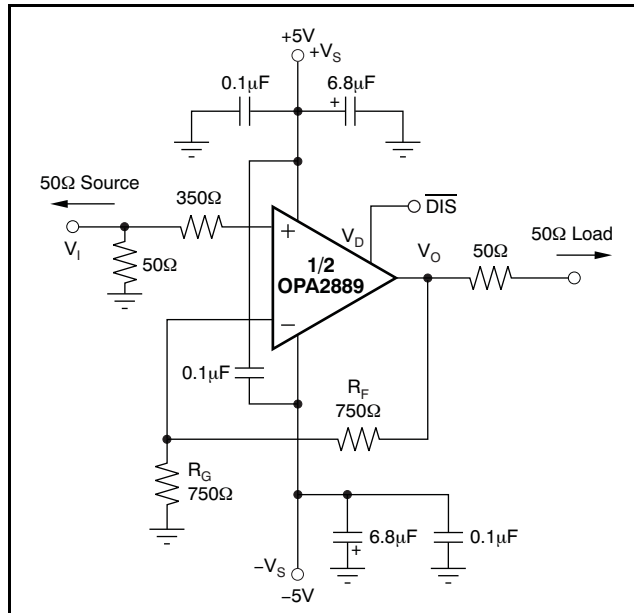
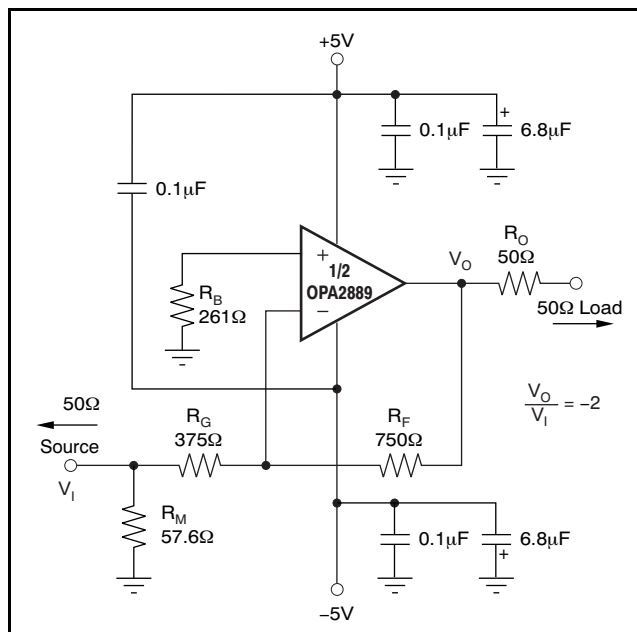

Figure 50. DC-Coupled, G = +2, Bipolar Supply, Specification and Test Circuit
Figure 60. Gain of $-2V/V$ Example Circuit
At $T_A = +25^\circ C$, $G = +2V/V$, $R_F = 750\Omega$, and $R_L = 100\Omega$, unless otherwise noted. See Figure 50.
Figure 50 shows the dc-coupled, gain of +2V/V, dual power-supply circuit configuration used as the basis of the ±5V Electrical Characteristics and ±5V Typical Characteristics. This illustration is for one channel; the other channel is connected similarly. For test purposes, the input impedance is set to 50Ω with a resistor to ground and the output impedance is set to 100Ω. Voltage swings reported in the Electrical Characteristics are taken directly at the input and output pins, while output powers (dBm) are at the matched 50Ω load. For the circuit of Figure 50, the total effective load will be 100Ω || 1.5kΩ. The disable control line (MSOP-10 package only) is typically left open for normal amplifier operation. Two optional components are included in Figure 50. An additional resistor (350Ω) is included in series with the noninverting input. Combined with the 25Ω dc source resistance looking back towards the signal generator, this resistor gives an input bias current cancelling resistance that matches the 375Ω source resistance seen at the inverting input (see the DC Accuracy and Offset Control section). In addition to the usual power-supply decoupling capacitors to ground, a 0.1μF capacitor is included between the two power-supply pins. In practical printed circuit board (PCB) layouts, this optional-added capacitor typically improves the 2nd-harmonic distortion performance by 3dB to 6dB.
A good rule of thumb is to target the parallel combination of R_F and R_G (see Figure 50) to be less than approximately 400Ω. The combined impedance $R_F \parallel R_G$ interacts with the inverting input capacitance, placing an additional pole in the feedback network and thus, a zero in the forward response. Assuming a 2pF total parasitic on the inverting node, holding $R_F \parallel R_G < 400\Omega$ keeps this pole above 160MHz. By itself, this constraint implies that the feedback resistor R_F can increase to several kΩ at high gains. This increase in resistor size is acceptable as long as the pole formed by R_F and any parasitic capacitance appearing in parallel is kept out of the frequency range of interest.
Voltage-feedback op amps exhibit decreasing closed-loop bandwidth as the signal gain increases. In theory, this relationship is described by the Gain Bandwidth Product (GBP) shown in the Electrical Characteristics. Ideally, dividing GBP by the noninverting signal gain (also called the Noise Gain, or NG) predicts the closed-loop bandwidth. In practice, this principle only holds true when the phase margin approaches 90°, as it does in high gain configurations. At low gains (increased feedback factors), most amplifiers exhibit a more complex response with lower phase margin. The OPA2889 is compensated to give a slightly peaked response in a noninverting gain of 2V/V (see Figure 50). This compensation results in a typical gain of +2V/V bandwidth of 60MHz, far exceeding that predicted by dividing the 75MHz GBP by 2. Increasing the gain causes the phase margin to approach 90° and the bandwidth to more closely approach the predicted value of (GBP/NG). At a gain of +10, the 8MHz bandwidth shown in the Electrical Characteristics agrees closely with that predicted using the simple formula and the typical GBP of 75MHz.
The frequency response in a gain of +2V/V may be modified to achieve exceptional flatness simply by increasing the noise gain to 2.5V/V. One way to modify the response without affecting the +2V/V signal gain, is to add a 750Ω resistor across the two inputs, as shown in the circuit of Figure 50. A similar technique may be used to reduce peaking in unity-gain (voltage follower) applications. For example, by using a 750Ω feedback resistor along
The OPA2889 is a general-purpose, wideband, voltage-feedback op amp; therefore, all of the familiar op amp application circuits are available to the designer. Inverting operation is one of the more common requirements and offers several performance benefits. See Figure 60 for a typical inverting configuration where the I/O impedances and signal gain from Figure 50 are retained in an inverting circuit configuration.
In the inverting configuration, three key design considerations must be noted. The first is that the gain resistor (R_G) becomes part of the signal channel input impedance. If input impedance matching is desired (which is beneficial whenever the signal is coupled through a cable, twisted-pair, long PCB trace, or other transmission line conductor), R_G may be set equal to the required termination value and R_F adjusted to give the desired gain. This consideration is the simplest approach and results in optimum bandwidth and noise performance. However, at low inverting gains, the resultant feedback resistor value can present a significant load to the amplifier output. For an inverting gain of $-2V/V$, setting R_G to 50Ω for input matching eliminates the need for R_M but requires a 100Ω feedback resistor. This approach has the interesting advantage that the noise gain becomes equal to $2V/V$ for a 50Ω source impedance—the same as the noninverting circuits considered in Figure 60. The amplifier output, however, now sees the 100Ω feedback resistor in parallel with the external load. In general, the feedback resistor should be limited to the 200Ω to $1.5k\Omega$ range. In this case, it is preferable to increase both the R_F and R_G values (see Figure 60), and then achieve the input matching impedance with a third resistor (R_M) to ground. The total input impedance becomes the parallel combination of R_G and R_M .
The second major consideration, touched on in the previous paragraph, is that the signal source impedance becomes part of the noise gain equation and influences the bandwidth. For the example in Figure 60, the R_M value combined in parallel with the external 50Ω source impedance yields an effective driving impedance of $50\Omega \parallel 57.6\Omega = 26.7\Omega$. This impedance is added in series with R_G for calculating the noise gain (NG). The resulting NG is $2.86V/V$ for Figure 60, as opposed to only $2V/V$ if R_M could be eliminated as discussed above. Therefore, the bandwidth is slightly lower for the gain of $-2V/V$ circuit of Figure 60 than for the gain of $+2V/V$ circuit of Figure 50.
The third important consideration in inverting amplifier design is setting the bias current cancellation resistor on the noninverting input (R_B). If this resistor is set equal to the total dc resistance looking out of the inverting node, the output dc error, as a result of the input bias currents, is reduced to $(\text{Input Offset Current}) \times R_F$. If the 50Ω source impedance is dc-coupled in Figure 60, the total resistance to ground on the inverting input is 402Ω .
The OPA2889 provides good distortion performance into a 200Ω load on $\pm 5V$ supplies. Relative to alternative solutions, it provides exceptional performance into lighter loads and/or operating on a single +5V supply. Generally, until the fundamental signal reaches very high frequency or power levels, the 2nd-harmonic dominates the distortion with a negligible 3rd-harmonic component. Focusing then on the 2nd-harmonic, increasing the load impedance improves distortion directly. Remember that the total load includes the feedback network; in the noninverting configuration (see Figure 50), this total is the sum of $R_F + R_G$, while in the inverting configuration it is just R_F . Also, providing an additional supply-decoupling capacitor ($0.1\mu F$) between the supply pins (for bipolar operation) improves the 2nd-order distortion slightly (3dB to 6dB). Operating differentially also lowers 2nd-harmonic distortion terms (see the plot on the front page).
Evaluating these two equations for the OPA2889 circuit and component values (see Figure 50) gives a total output spot noise voltage of $18.2\text{nV}/\sqrt{\text{Hz}}$ and a total equivalent input spot noise voltage of $9.1\text{nV}/\sqrt{\text{Hz}}$. This total includes the noise added by the bias current cancellation resistor (350Ω) on the noninverting input. This total input-referred spot noise voltage is slightly higher than the $8\text{nV}/\sqrt{\text{Hz}}$ specification for the op amp voltage noise alone. This result is the case as long as the impedances appearing at each op amp input are limited to the
previously recommend maximum value of 400Ω. Keeping both ($R_F \parallel R_G$) and the noninverting input source impedance less than 400Ω satisfies both noise and frequency response flatness considerations. Because the resistor-induced noise is relatively negligible, additional capacitive decoupling across the bias current cancellation resistor (R_B) for the inverting op amp configuration of Figure 60 is not required.
The balanced input stage of a wideband voltage-feedback op amp allows good output dc accuracy in a wide variety of applications. The power-supply current trim for the OPA2889 gives even tighter control than comparable amplifiers. Although the high-speed input stage does require relatively low $\pm 0.75\mu\text{A}$ input bias current, the close matching between them may be used to reduce the output dc error caused by this current. The total output offset voltage may be reduced by matching the dc source resistances appearing at the two inputs. This matching reduces the output dc error resulting from the input bias currents to the offset current times the feedback resistor. Evaluating the configuration of Figure 50, and using worst-case $+25^\circ\text{C}$ input offset voltage and current specifications, gives a worst-case output offset voltage equal to: